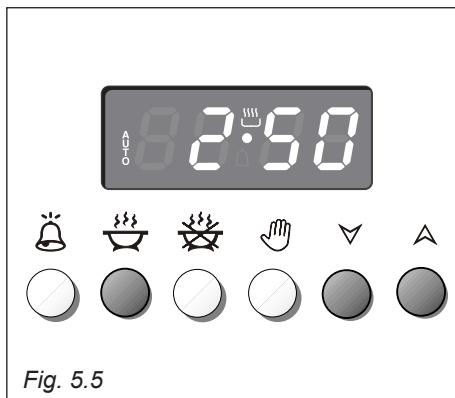

Fig. 5.5
1. Set the length of the cooking period by pushing the  button and the  button to increase, or  to decrease if you have passed the desired time (fig. 5.5). The **AUTO** and the  symbol will illuminate.